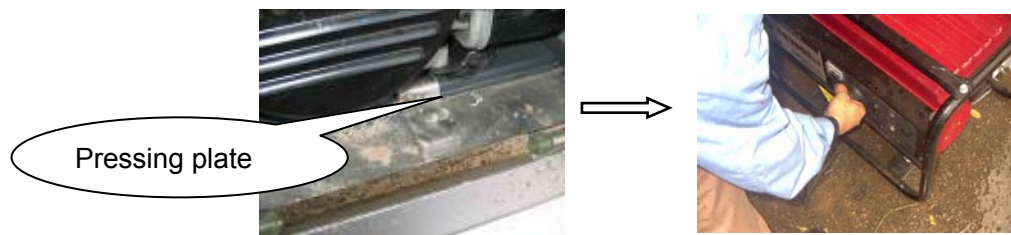

Fig. 2.5-2
2) Unfasten the fixing pin, pull out the generator, place it on the ground and ensure that the generator contacts the ground directly See Fig. 2.5-2).